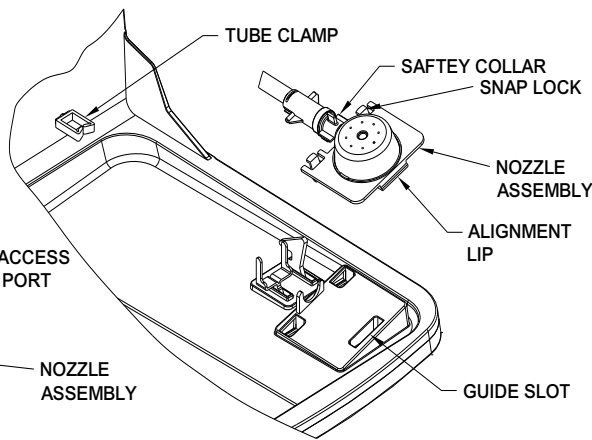

Figure 12
- B. After securing Cartridge tube with Tube Clamp, Tilt Nozzle Assembly to insert alignment lip into guide slot on Tray Assembly. (Ref Figure 12)